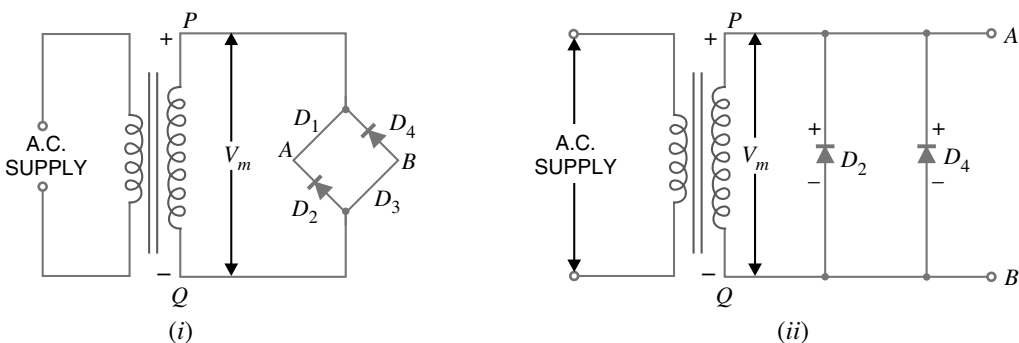

Fig. 4.35
**Peak inverse voltage.** The peak inverse voltage ( $PIV$ ) of each diode is equal to the maximum secondary voltage of transformer. Suppose during positive half-cycle of input a.c., end  $P$  of secondary is positive and end  $Q$  negative. Under such conditions, diodes  $D_1$  and  $D_3$  are forward biased while diodes  $D_2$  and  $D_4$  are reverse biased. Since the diodes are considered ideal, diodes  $D_1$  and  $D_3$  can be replaced by wires as shown in Fig. 4.35 (i). This circuit is the same as shown in Fig. 4.35 (ii).
Referring to Fig. 4.35 (ii), it is clear that two reverse biased diodes (*i.e.*  $D_2$  and  $D_4$ ) and the secondary of transformer are in parallel. Hence  $PIV$  of each diode ( $D_2$  and  $D_4$ ) is equal to the maximum voltage ( $V_m$ ) across the secondary. Similarly, during the next half-cycle,  $D_2$  and  $D_4$  are forward biased while  $D_1$  and  $D_3$  will be reverse biased. It is easy to see that reverse voltage across  $D_1$  and  $D_3$  is equal to  $V_m$ .